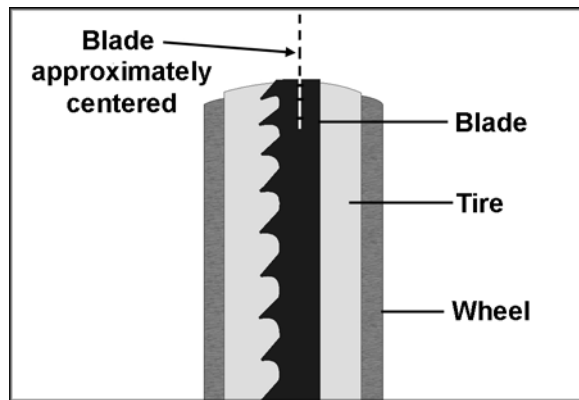

Figure 7-14
6. Rotate wheel by hand, observing position of blade through tracking window. As you rotate wheel, move tension lever to *Full Tension* position. The blade should continue to ride upon center of tire (Figure 7-14).